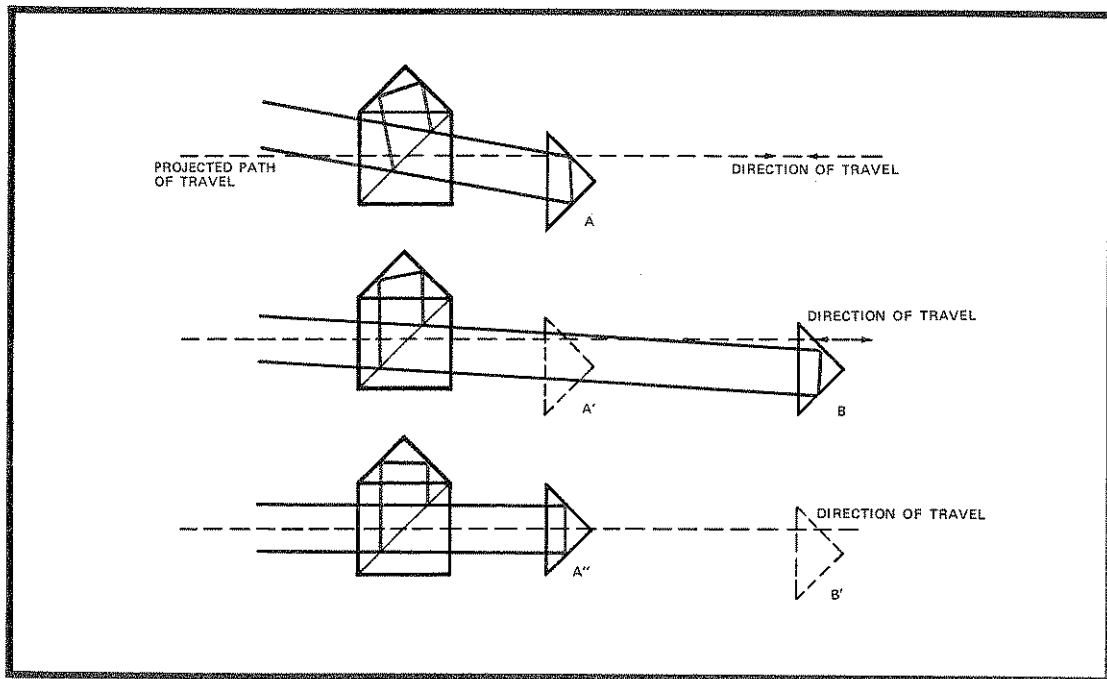

Figure 2-52. Alignment Tips
Understanding the following relationships between the movement of the retroreflector and the stationary interferometer will make it easier to decide how to align these two components in respect to each other. If the 10702A Linear Interferometer is the moving component, see *Figure 2-11* for an explanation of the Option 001 windows. If the 10705A Single Beam Interferometer is used it must be the stationary component. *Figure 2-52* shows a sequential relationship with the misalignment exaggerated for clarity. To initially align the components use the following sequence:
- a. With the retroreflector as close as possible to the interferometer (position A of *Figure 2-52*), adjust any component (laser head, interferometer, or retroreflector) to get the small spots to overlap at the receiver (a receiver alignment target makes this adjustment easier).